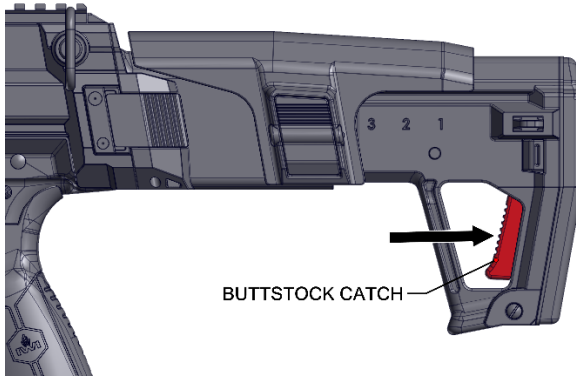

Figure 8-2 - Retracted Buttstock
1. Press the buttstock catch on the end of the Collapsible Folding Buttstock (Figure 8-2).